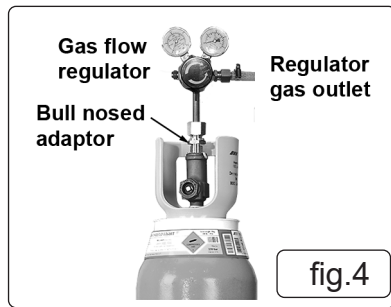

fig.4
5.3.1. If using CO2 gas, screw the flow regulator directly into the cylinder, and tighten with correct size spanner (fig.4).
5.3.2. If using argon or argon mixture gas, the supplied "bull nose adaptor" should be fitted to the cylinder and be tighten with correct size spanner, then screw the flow regulator into the "bull nose adaptor", and tighten with correct size spanner (fig.4).
5.4.1. Push one end of the gas hose fully onto the flow regulator gas outlet connection and secure with the worm drive clip (fig 4).
- 5.10.1. Disconnect gas hose (fig.4) from cylinder. Store cylinder in safe dry childproof location.